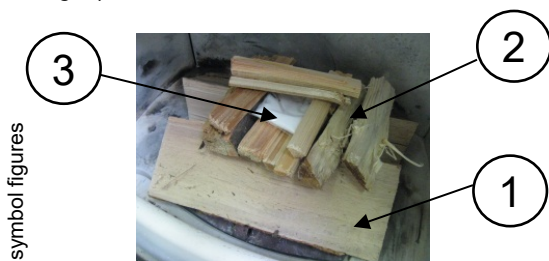

Figure 3:ignite the fire
Place 2-3 logs (approx. 1,2 kg in total) crossways in the combustion chamber (1) with sufficient distance from each other (min. 2 cm), on top of that place some softwood chippings (approx. 0,7 kg) (2) and some ignition aid and light. (3) (see fig. 3)